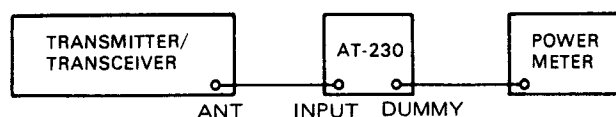

Fig. 1
1. Connect as in Fig. 1.
As in Fig. 1.